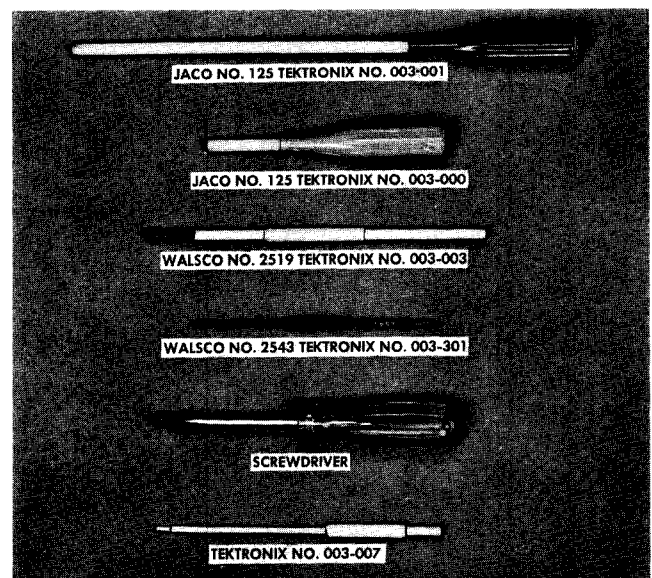
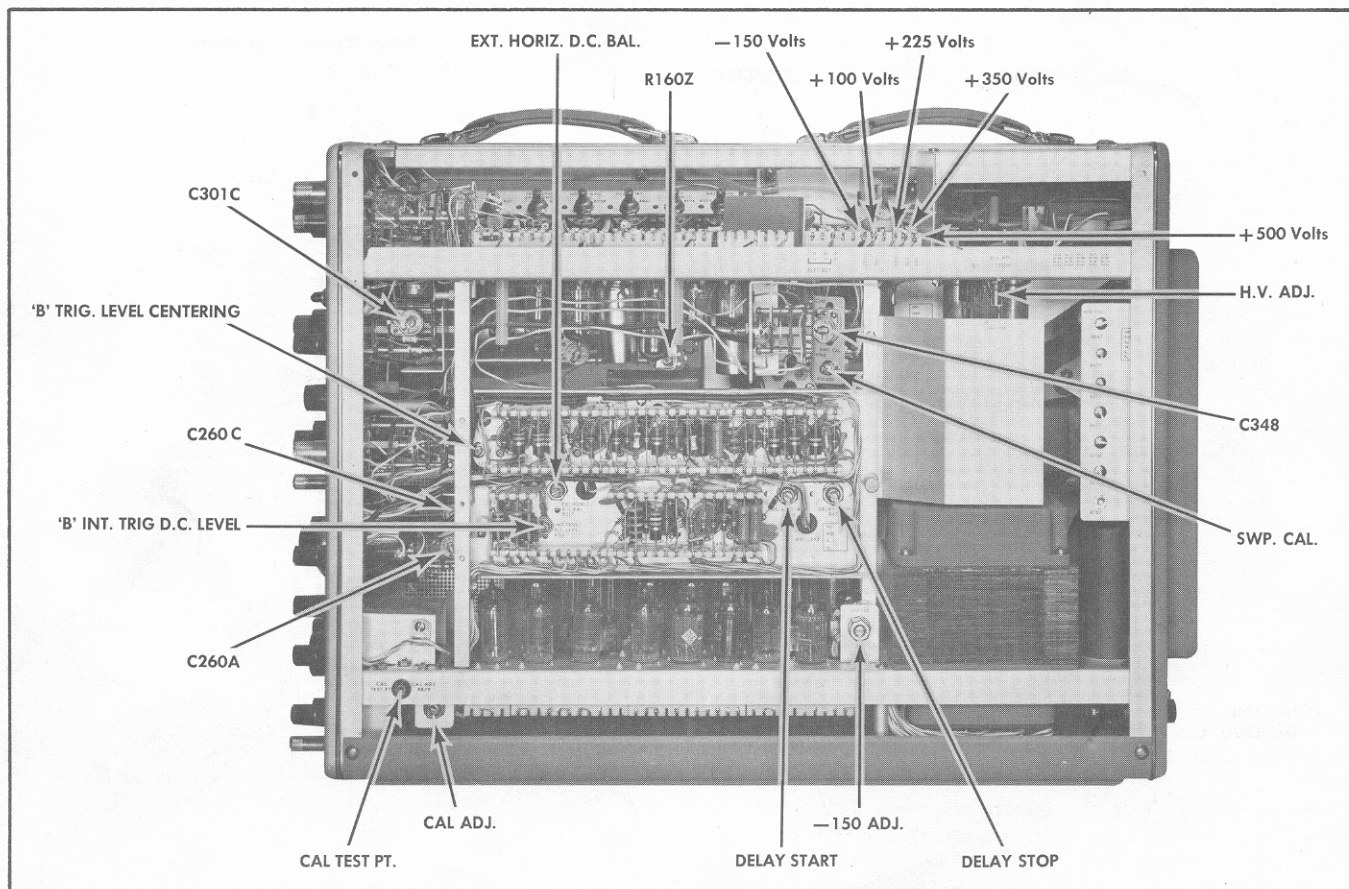
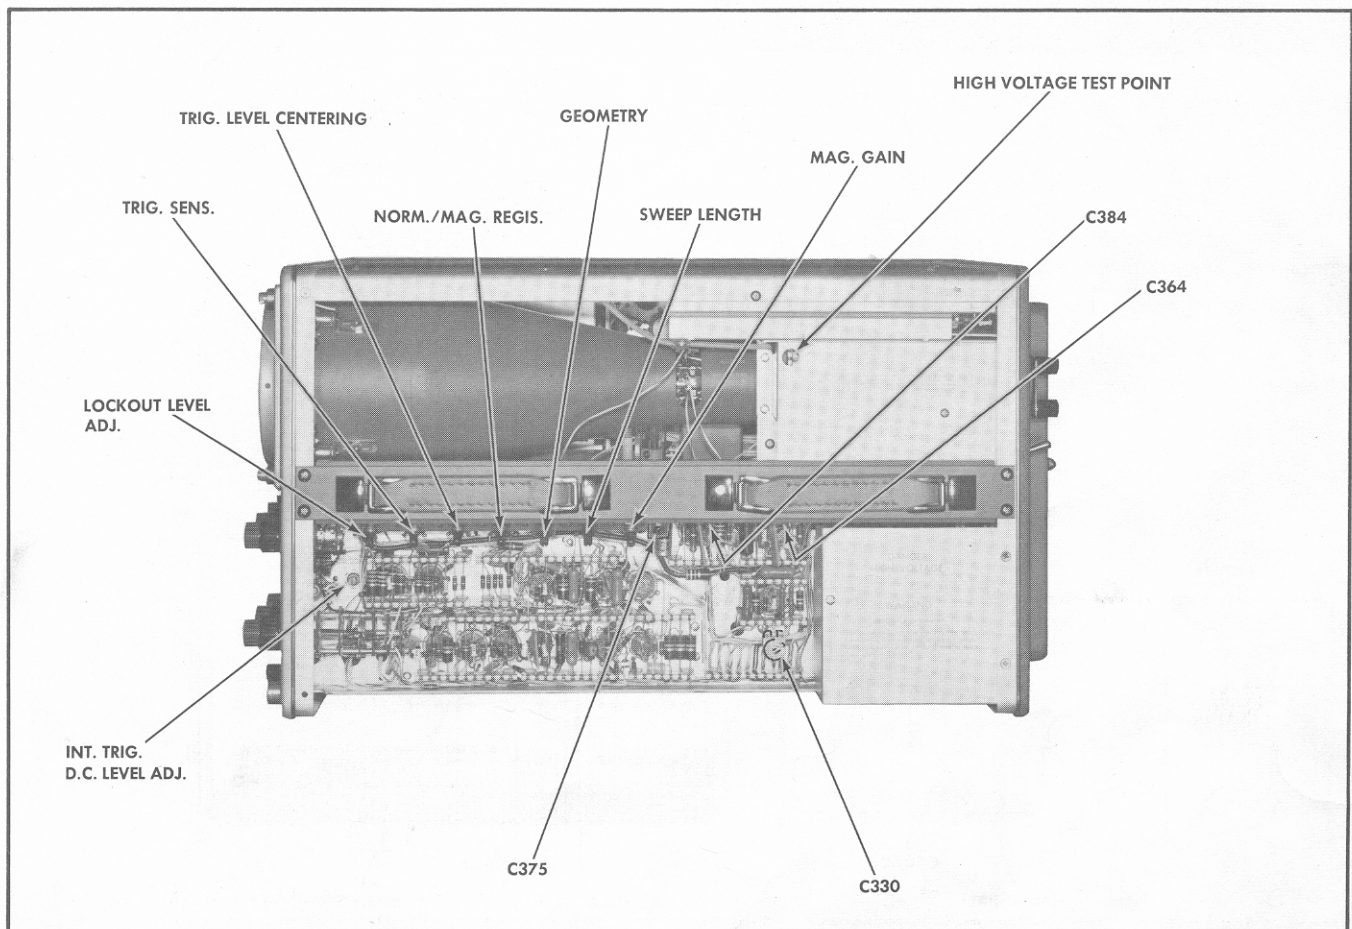
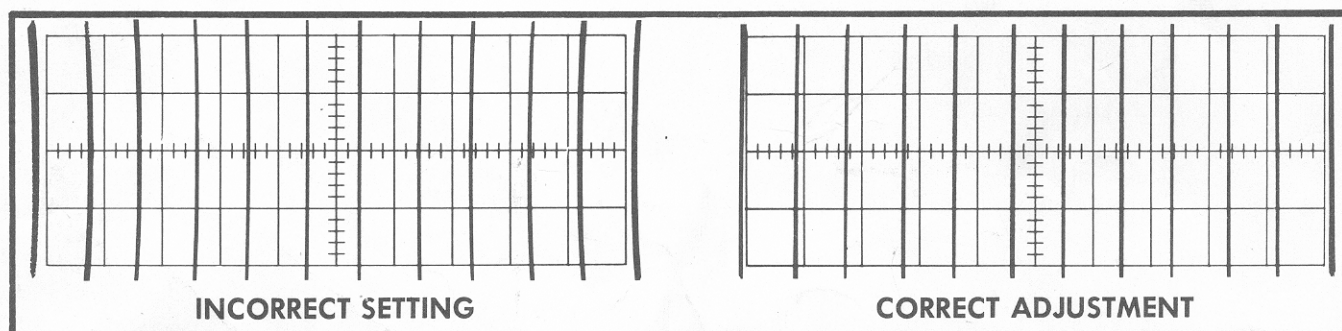

Fig. 6-1. Suggested Calibration Tools.
Fig. 6-3. Right-Side View of the Oscilloscope showing the internal controls locations.
Fig. 6-4. Top View of the Oscilloscope showing locations of internal controls.
Fig. 6-6. Waveforms obtained while adjusting the geometry of a Type 545A Oscilloscope.
7.) Low-Capacitance Recalibration Tools: Tektronix part numbers 003-000, 003-007 and 003-301. (See Recalibration Tools in Accessories Section of Operator's Manual and Fig. 6-1).
Measure the output voltage of the -150 v , $+100\text{ v}$, $+225\text{ v}$, $+350\text{ v}$ and $+500\text{ v}$ supplies at the points indicated on the right side view, Fig. 6-3. Be sure your meter is accurate (see Equipment Required, Fig. 6-1). The output voltage of the -150 v supply must be between -147 v and -153 v , and the other regulated supplies must be within 2% of their rated values. You should be able to set the -150 V Adj. control (see Right Side View, Fig. 6-3) so that all of these voltages are within the specified tolerance. Bear in mind that the calibration of the entire instrument is affected by changes in the power supply voltages. Don't adjust the -150 v unless one or more of the supplies is actually out of tolerance.
To make this adjustment connect the voltmeter between the Cal. Test Pt. jack and ground (see Right Side View, Fig. 6-3), turn the AMPLITUDE CALIBRATOR switch to the OFF position, and adjust the Cal. Adj. control for a reading of exactly 100 volts. To assure suitable symmetry of the calibrator waveform, the reading at this point should not be less than 45 v nor more than 55 v when the calibrator is turned on (to any of the output voltage settings). Readings outside this range are generally caused by unbalanced multivibrator tubes (V875 or V885A).
Connect the voltmeter between ground and the high-voltage check point (see Top-View, Fig. 6-4), and set the H.V. Adj. (see Right Side View, Fig. 6-3) for a meter reading of exactly -1350 volts . If your meter has a full scale reading of 1200 v , you can connect the positive meter lead to the -150 v supply, at any convenient point, and set the H.V. Adj. for a meter reading of -1200 v .
Connect 500 μ sec markers from the Type 180 or 180A to the INPUT connector and position the base line of the timing comb below the bottom of the crt face so it is not visible. Adjust the GEOMETRY control (see Top View, Fig. 6-4) for straight vertical lines running parallel to the left and right edges of the graticule (see Fig. 6-6).
Connect 1 millisecond and 100 microsecond markers from the Type 180A to the vertical input and adjust the 'B' triggering for a stable display. If necessary adjust Mag. Gain (see Top View Fig. 6-4) to display 1 large marker every 5 cm, and 2 small markers every cm. Position the display horizontally to observe linearity on both ends. Check that the neon lamp lights when MAGNIFIER is switched on.
With the MAGNIFIER ON, position the display so that the first time marker is directly behind the center graticule line. Turn the MAGNIFIER OFF and adjust Norm./Mag. Regis. (see Top View Fig. 6-4) so that the first time marker again falls directly behind the center graticule line.
Connect a jumper from the 'A' SAWTOOTH to the vertical INPUT, switch the HORIZONTAL DISPLAY to EXT. X1 and turn 'A' STABILITY full right. Turn the HORIZONTAL POSITION control to the left to position a vertical trace to the left vertical graticule line. Now, adjust the Ext. Horiz. DC Bal. (see Right Side View, Fig. 6-3) control for no horizontal shift of the trace while turning the horizontal VARIABLE 10-1 front-panel control.
Adjust 'A' STABILITY and TRIGGERING LEVEL controls for a stable square-wave, displayed vertically. Adjust C330 (see Top View, Fig. 6-4) for optimum square wave response. Now switch the HORIZONTAL DISPLAY to EXT. X10, increase CALIBRATOR signal to 5 VOLTS, and adjust C301C (see Right Side View, Fig. 6-3) for optimum flattop.
With controls as in Step 20 above, adjust the Sweep Length control (see Top View, Fig. 6-4) for a sweep length of 10.5 centimeters.